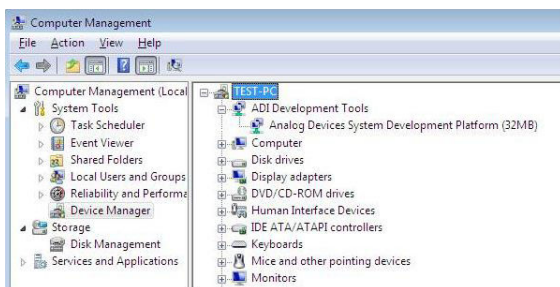

Figure 18. Device Manager: Checking the Board is Connected to the PC Correctly
- The **Computer Management** box appears. Click **Device Manager** from the list of **System Tools** (see Figure 18).